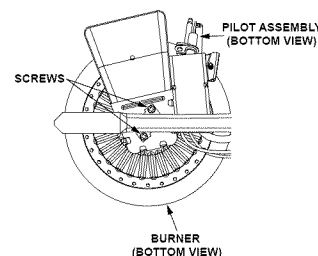

FIGURE 34.
1. Take off the burner by removing the two (2) screws located underneath the burner.
2. Check the burner to see if it is dirty or clogged. The burner may be cleaned with soap and hot water (Figure 34).
10. Reattach the burner and secure with the screws removed earlier. NOTE: See Figure 34 for correct burner orientation.